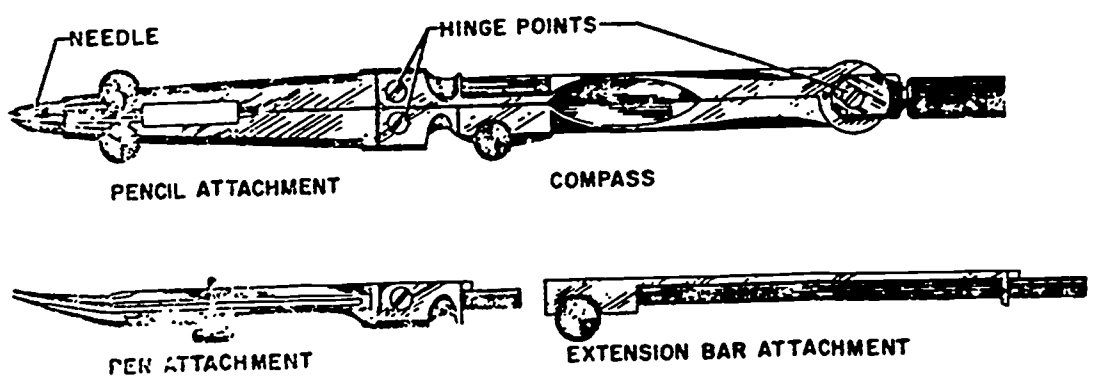

Figure 2-26. Standard compass with attachments.
**Compass.** The large compass (fig. 2-26) is one of the most important instruments in a drawing kit. It should be adjusted before it is used for the first time and then maintained in that condition. As you can see, one leg is arranged to hold either a pencil attachment or a pen attachment. You should insert the pen attachment first and then adjust the needle point so that it is about 1/32 of an inch longer than the pen. Thus, when the needle point sinks into the paper, the pen is perpendicular to the paper; and when the compass is held in a vertical position, the pen barely touches the paper. Once you have adjusted the needle point, leave it in that position. When you change the pen attachment for a pencil attachment, adjust only the lead point. You use the same relationship as for the pen attachment.